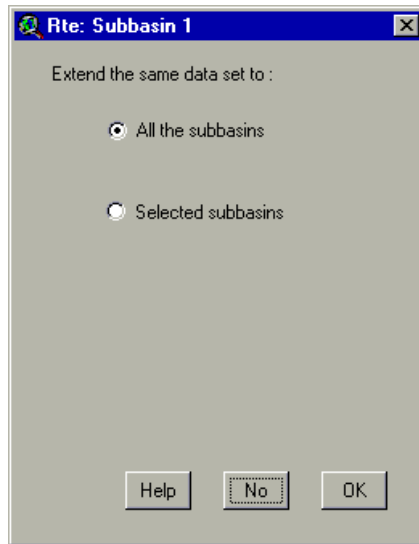

Figure 12.30
4. If the user saves the modified values, once the values are saved for the subbasin (by clicking **OK** in Step 3), a new dialog box is displayed allowing the user to copy the modifications to other subbasin data sets (Figure 12.30).